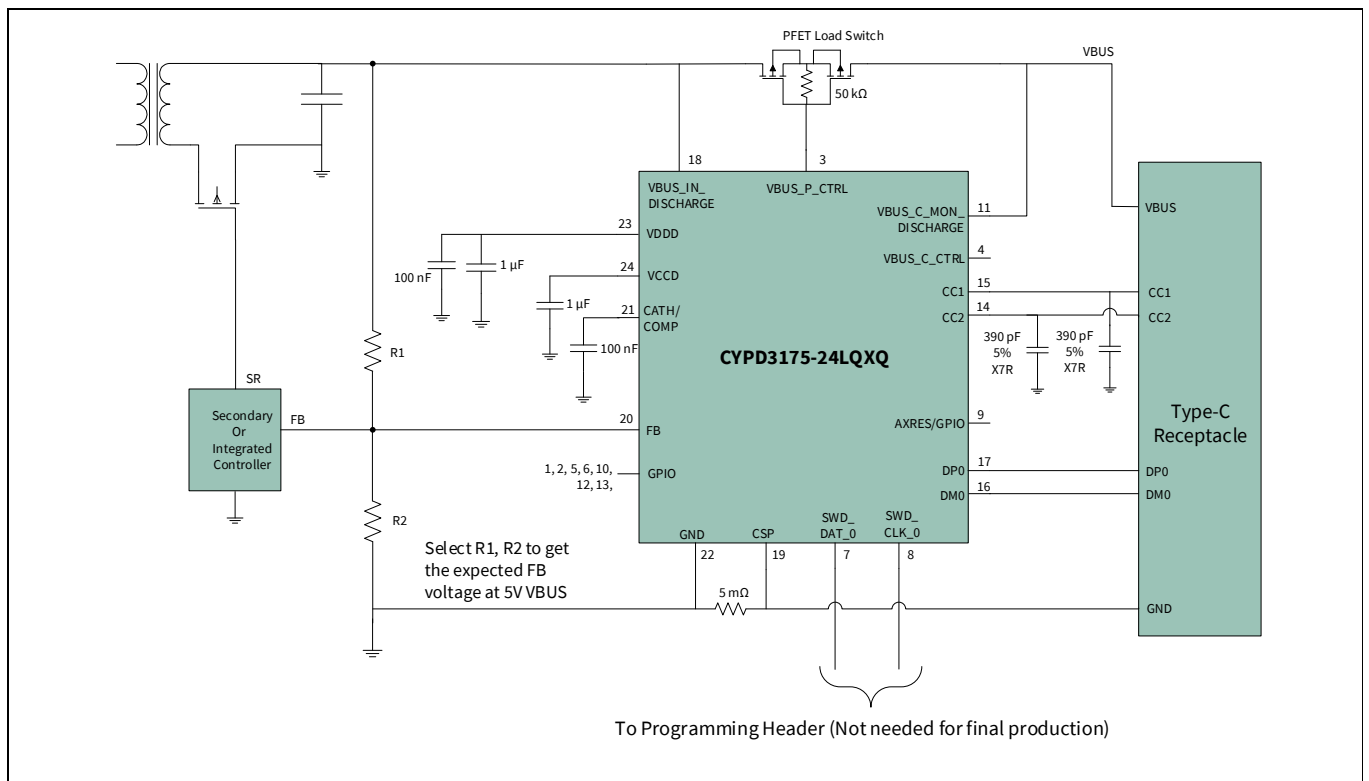

**Figure 7 CCG3PA based power adapter application diagram with opto coupler feedback control (24-pin QFN device)**
**Figure 6** and **Figure 7** show the application diagrams of CCG3PA-based power adapter with opto-coupler feedback control using 16-pin SOIC and 24-pin QFN parts respectively. In an opto-feedback power adapter, CCG3PA implements a shunt regulator and the feedback to the primary controller is through an opto-coupler. The current drawn through the CATH path is proportional to the potential difference between FB pin and the internal bandgap reference voltage. At default 5-V VBUS, the FB pin will be held at the voltage set by the bandgap reference voltage using internal VBUS resistor dividers.